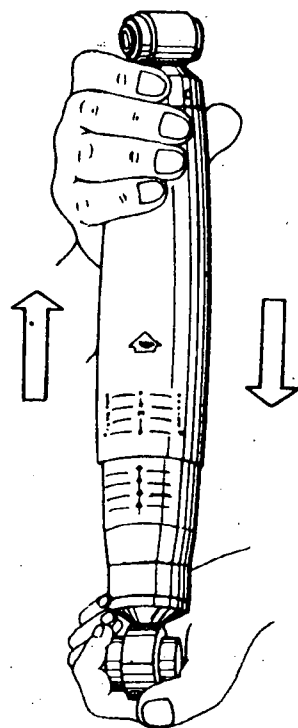

Fig. 6
- b) Inspect the condition of the shocks by moving them with your hands (fig. 6).